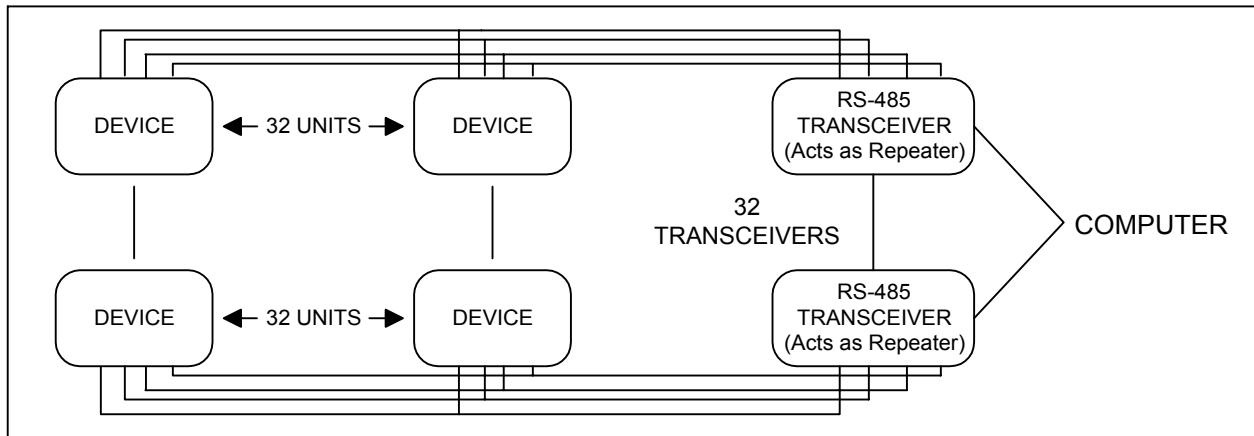

Figure 4.8: 4-Wire RS-485 Communication Installation Connection with Transceiver
- In a four-wire connection, a maximum of 3600 instruments can be included in the same network (**Figure 4.8**).